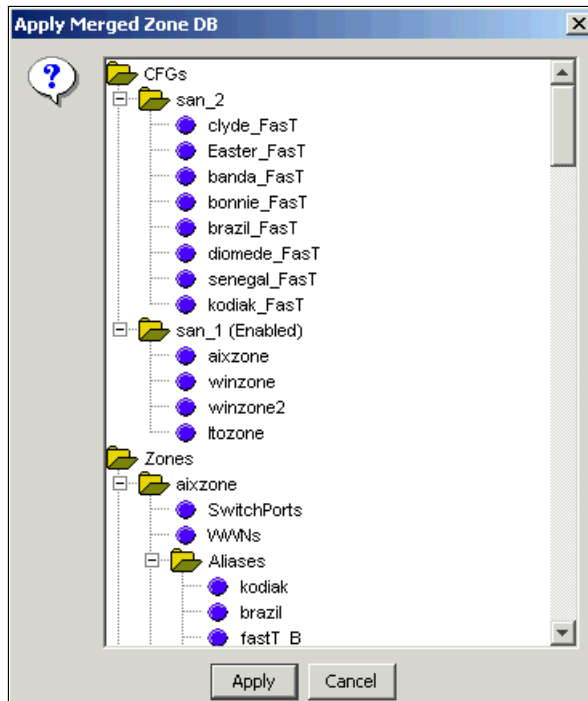

Figure 1-197 Merged zone window
Now we can click **View Merged Results** to display the final zoning information as shown in Figure 1-197.
**Attention:** Clicking **Apply** will modify the zoning configuration in both fabrics according to the display shown in Figure 1-197, even if the merge is not completed. In our example, the previously active configuration “SAN\_2” in Fabric itsosw4 was disabled.